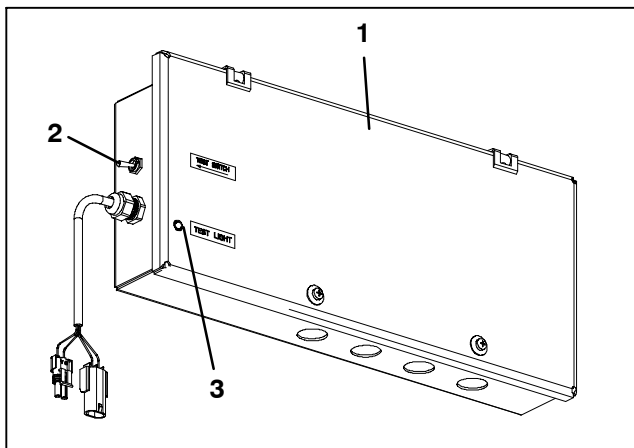

Figure 1-3 Control Box
- c. Toggle and hold the IMD test switch on the control box (See Figure 1-3). After holding the switch for about 10 seconds, the IMD test light on the control box should turn ON. On the driver display, the generator voltage should show 0V. This is to confirm the generator's 24VDC is turned off by the IMD.